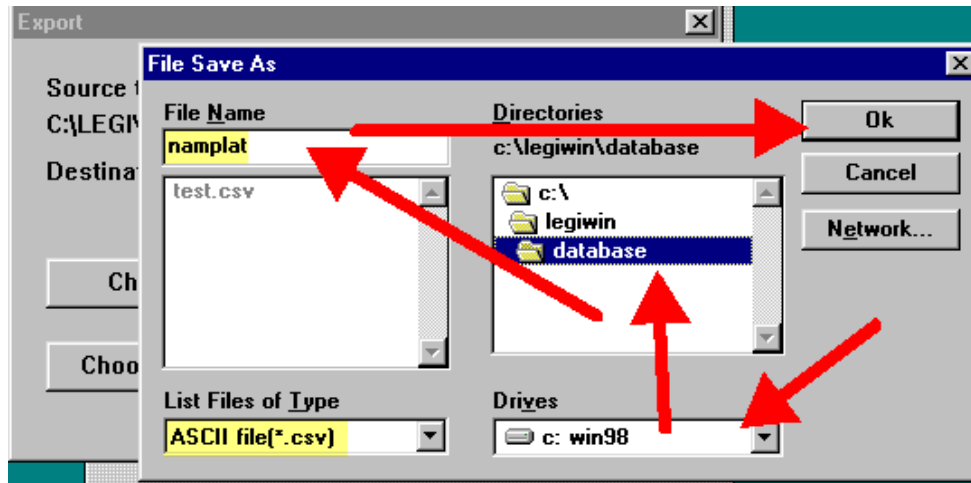

Figure 5-6
5.2.10. Browse to *C:\legiwin\database*. (Figure 5-6)
5.2.11. Note that the *List Files of Type* is set to *ASCII files(*.csv)*. (Figure 5-6)
5.2.12. Give the table the same name as the original name. (Figure 5-6)
5.2.13. Click [OK]. (Figure 5-6)